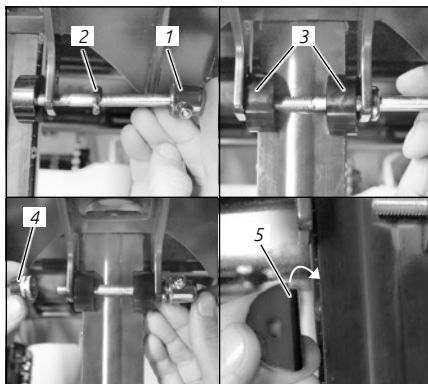

Fig.:9
2. Now insert the quick release mechanism again, making sure that the individual fastening components are correctly positioned (see "Fig.:9") and that the edge of the sliding block ("Fig.:9 (5)") is correctly positioned on the rail.